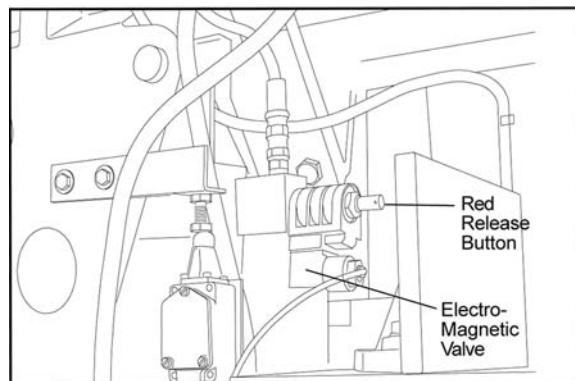

Figure 4: Lowering head with power off
5. A red release button on the electro-magnetic valve provides a means to lower the saw head when power to the machine has been disconnected (see Figure 4).
4. To lower the saw head with power off, pull and turn the red knob (manual override) on the electro-magnetic valve (see Figure 4).